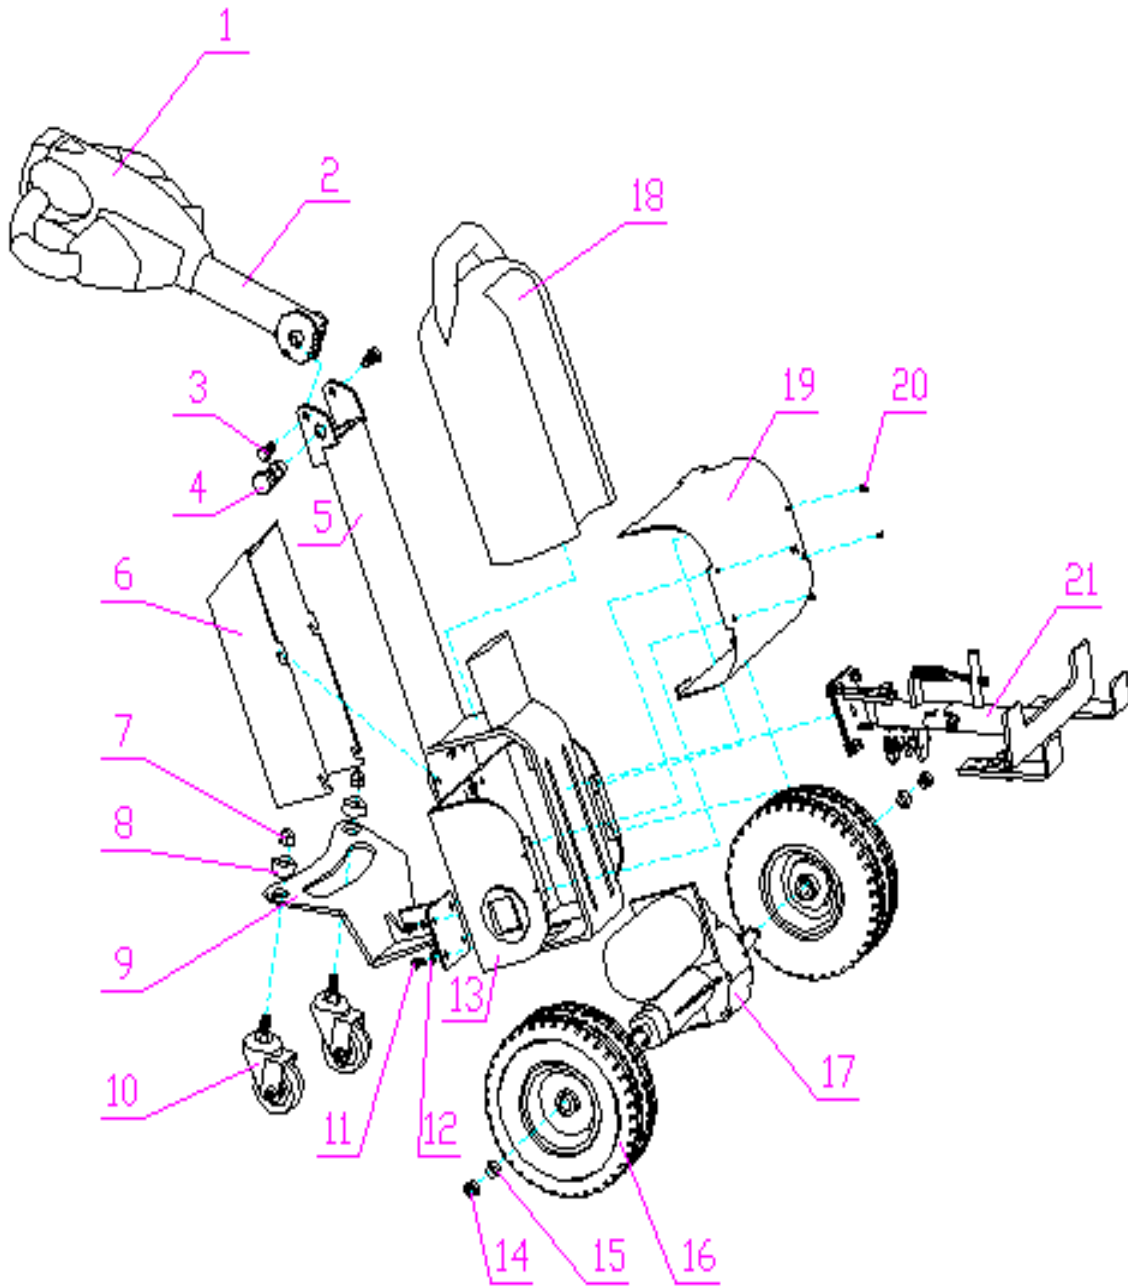

Fig 4
5) Handle unit (No.1 and No.2,fig 4)